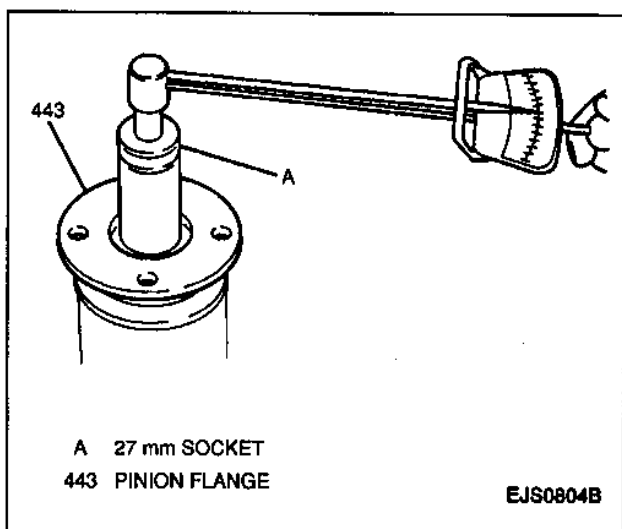

Figure 80—Measuring Pinion Bearing Preload
- Pinion bearing preload using a torque wrench. The pinion gear should require 1.2 N.m (11 lb. in.) of torque in order to rotate. If pinion bearing preload is less than specified, repeat the adjustment procedure until proper pinion bearing preload has been attained (Figure 80).
11. Both side bearing adjusters into differential carrier (Figure 80).